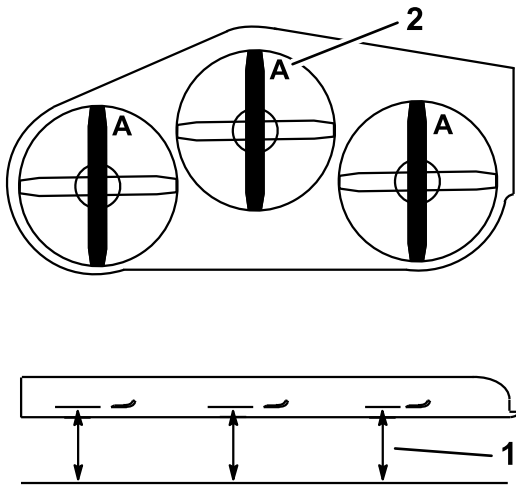

Figure 92
4. Measure from a level surface to the cutting edge, position **A**, of the blades (**Figure 92**).